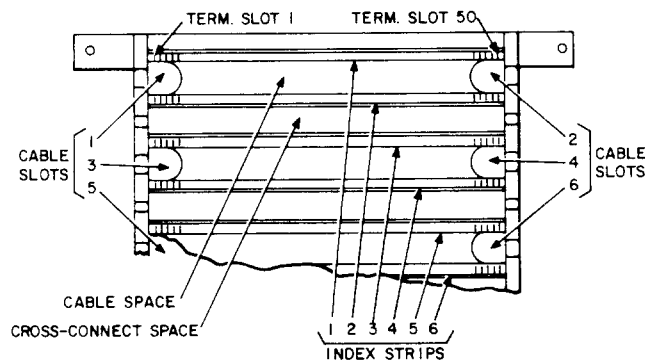

Fig. 15—Numbering Plan for 88-Type Wiring Block
(1) When station or equipment cable enters from the top, use No. 6 twine with a weight. Drop behind wiring block and use wire hook to fish through proper cable slot. Pull cable down through cable slot.
(2) When cable enters from the bottom, drop weighted No. 6 twine through proper cable slot and down behind the wiring blocks. Pull cable up through cable slot.
**3.06** Cable slots are numbered with the odd numbers on the left and the even numbers on the right, from top to bottom (Fig. 15). In the red field, only the odd number cable slots on the left side are used.